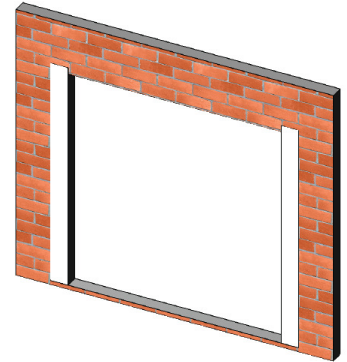

Figure 29:
2. At each jamb, embed the flashing paper into the sealant onto the mounting flange and fasten into place. The flashing paper should be cut sufficiently long enough to extend at least 3 in. past the weep-screed or diado flashing and at least 6 inches above the head of the window (Figure 29).